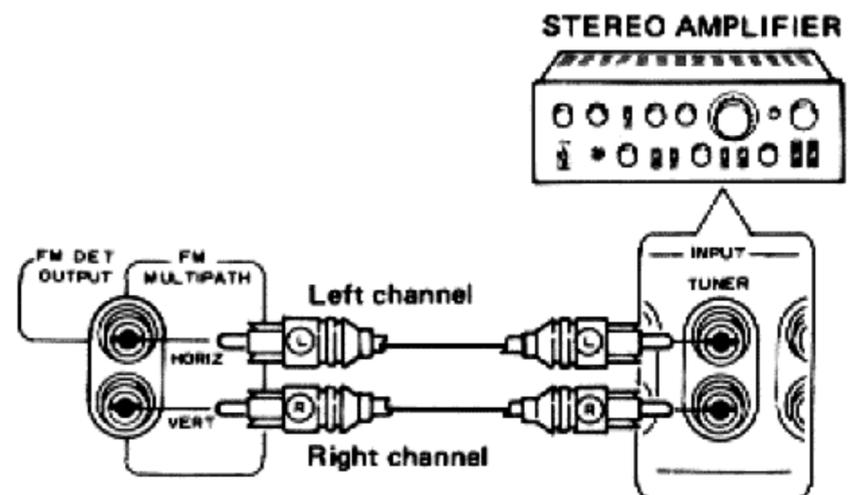

Fig. 13
1. Connect rear panel MULTIPATH HORIZ (upper) jack to the tuner L jack of the stereo amplifier and the VERT (lower jack) to the tuner R jack (Fig. 13).